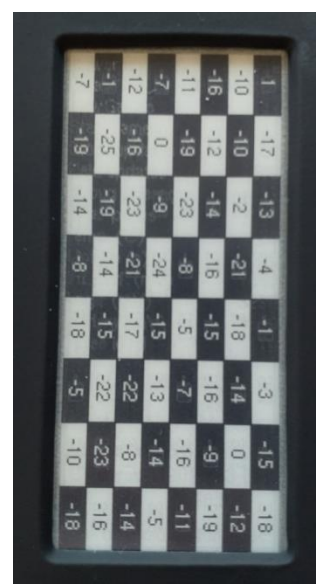

Figure 3: Antenna value check screen.
2. Press and hold the up button [▲] for at least 3 seconds. A screen as shown in figure 3 will appear.